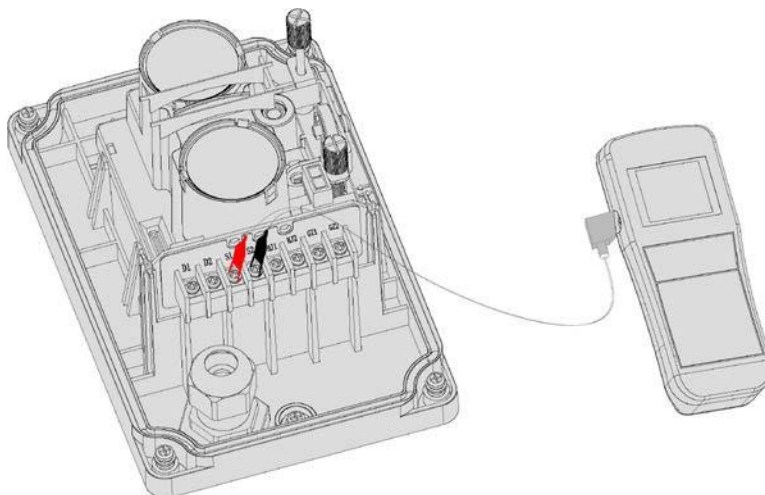

Figure 8: Programming connection Details
The TR6100 sensitivity and the operation range can be adjusted through hand held programmer on project site. The programmer can be purchased separately. It is mandatory for the commissioning personnel have programmer tool in order to adjust the detector according to the site situation and environmental requirement. Refer to Figure 8.
- b. Once you located the mark, loosen the M4x12 screw and adjust the horizontal or vertical adjustment wheel until the Laser beam mark at the centre of the mirror. Refer to figure 8.